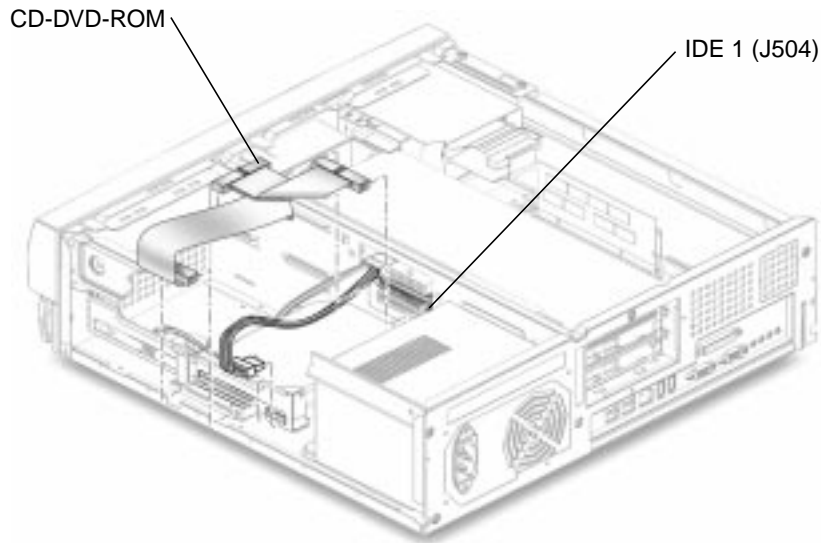

FIGURE 6-4 Removing and Replacing the Primary IDE Cable Assembly
2. **Disconnect the primary IDE cable assembly connectors from the following** (FIGURE 6-4):
1. **Position the primary IDE cable assembly into the chassis** (FIGURE 6-4).